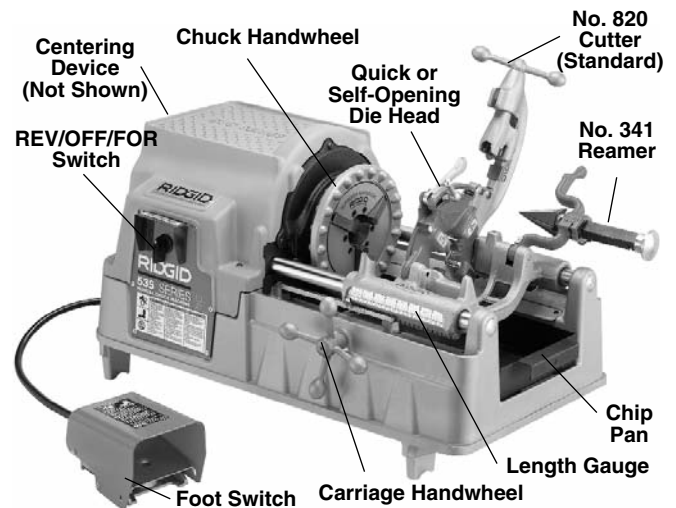

Figure 4 – No. 535 Pipe and Bolt Threading Machine
1. Make sure Threading Machine is unplugged and the directional switch is set to the OFF position (Figure 4).
4. Make sure the foot switch is present and attached to the Threading Machine (Figure 4).